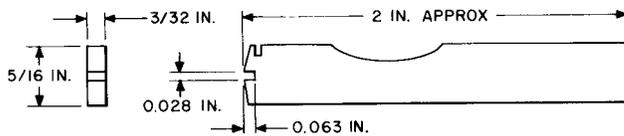

Fig. 9—AECO H-47202 Adjuster Tool
2.09 **AECO H-47202:** The AECO H-47202 tool (Fig. 9) is a cam adjuster used on 197-type switches.